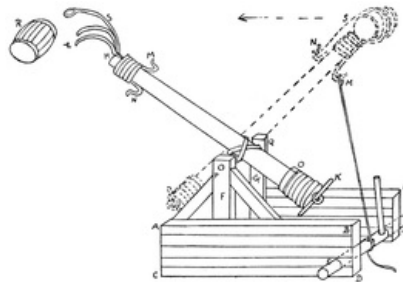

FIG. 325
**A War Engine** (Plate XIII). This piece of artillery was used at the time of the crusade of Richard I. It is a simple and interesting model to make. The sides (A B C D in Fig. 325) are built up of pieces of stripwood  $\frac{1}{4}$  inch by  $\frac{1}{4}$  inch, length about 3 inches, or the sides may be pieces of cigar-box. If made of stripwood, grooves can be filed in the two bottom pieces to make holes, E, when these pieces are glued together. A round rod passes through these holes to form a windlass. Two posts, F and G,  $\frac{1}{4}$ "  $\times$   $\frac{1}{2}$ "  $\times$   $3\frac{1}{4}$ ", are glued to the sides about  $1\frac{1}{2}$  inches from end, A C, as in figure; these must either have holes drilled through them for a rod of wood (or thick wire) or have circular grooves filed in the tops into which a rod can be glued.